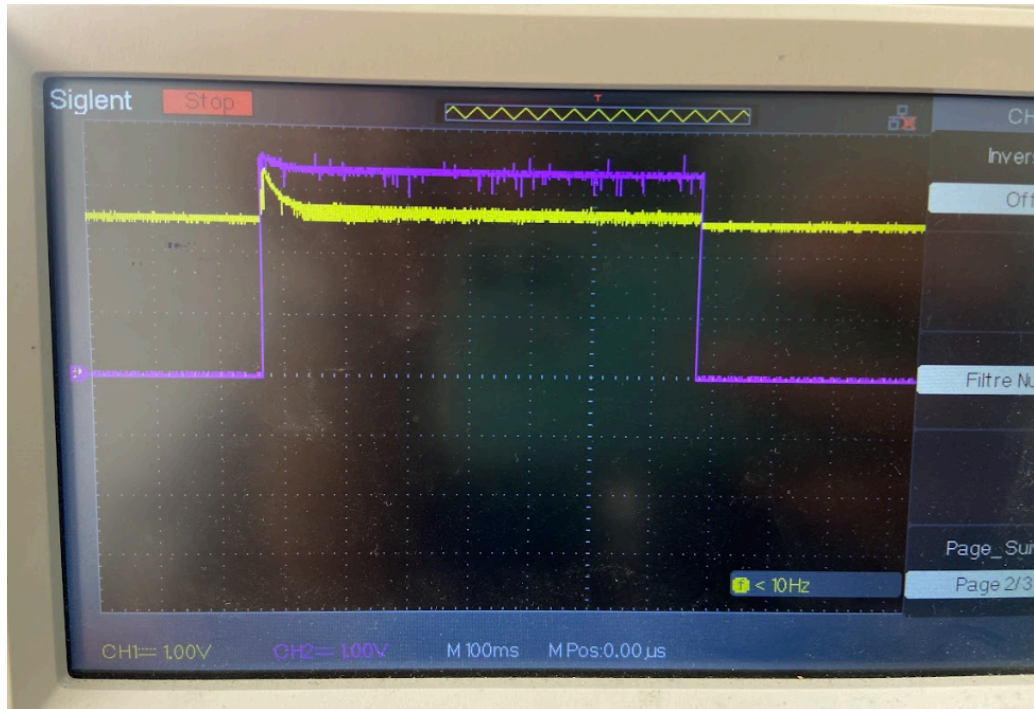

Figure 2
- Figure 2 depicts the waveform of the **PWM** signal and the corresponding **Current variation** under normal operating conditions.